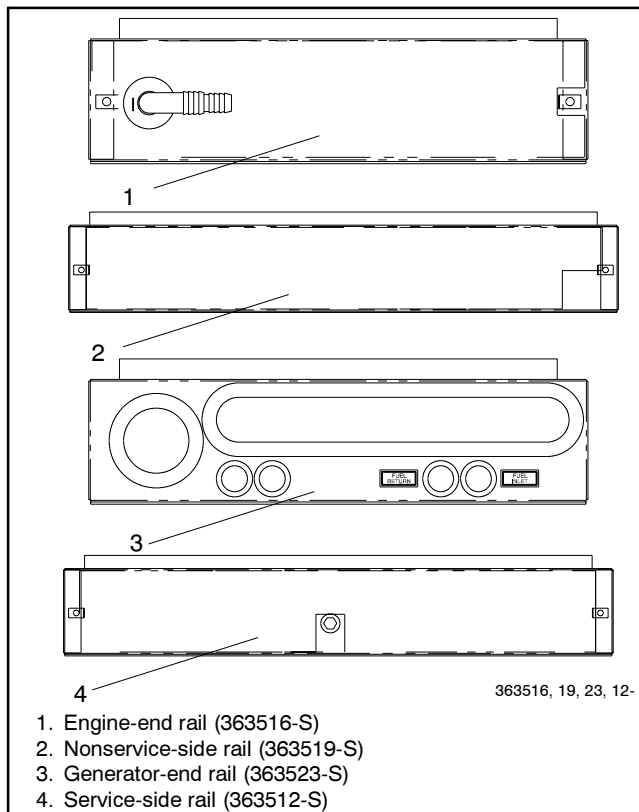

Figure 7 Rail Identification
- 7.1 Assemble the rails (363512-S, 363516-S, 363519-S, and 363523-S) onto the base. See Figure 7 for rail identification. Use 10 screws (X-465-24) and washers (X-25-142) to secure.